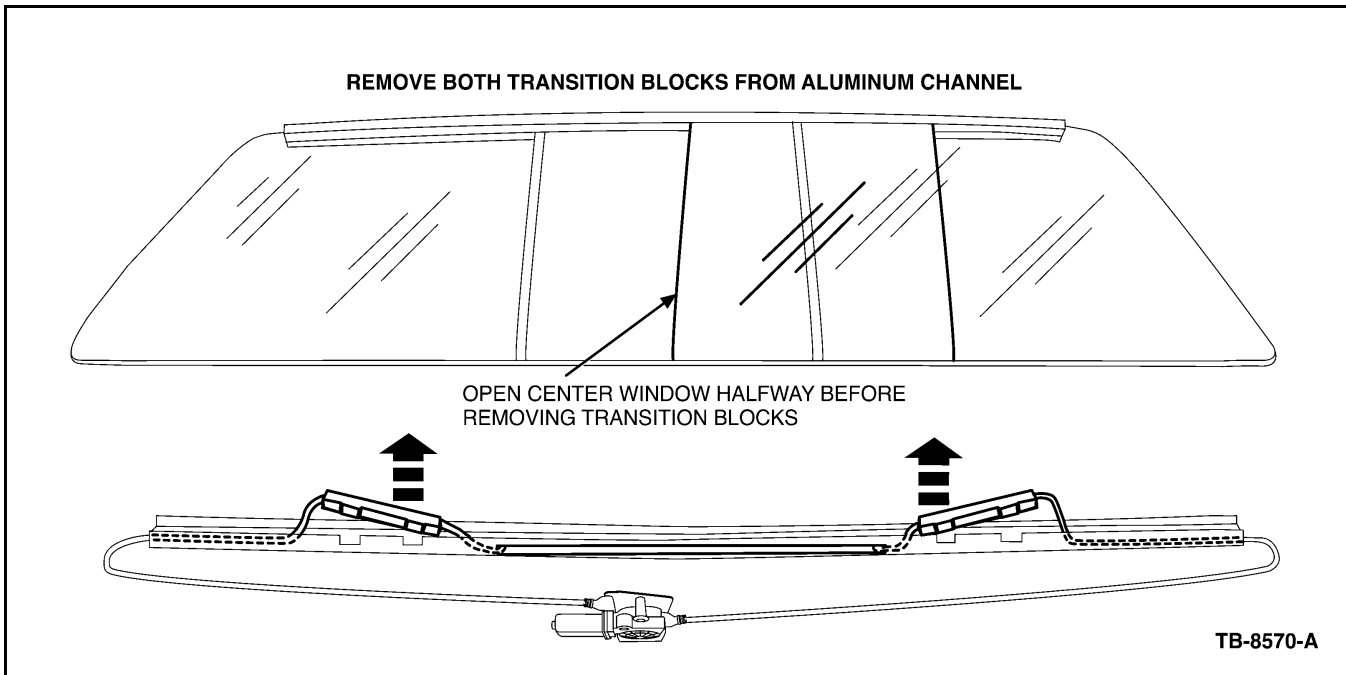

Figure 11 - Article 06-15-5
23. Remove driver's side transition block from lower aluminum channel by prying loose with a screw driver (Figure 11).
24. Remove passenger side transition block and cable cover from lower aluminum channel by prying loose with a screw driver (Figure 11).